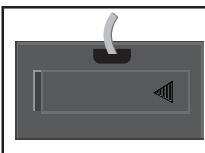

Figure 7.2
2. Carefully slide the battery compartment cover to the right and open up the hinged cover (Figure 7.2).